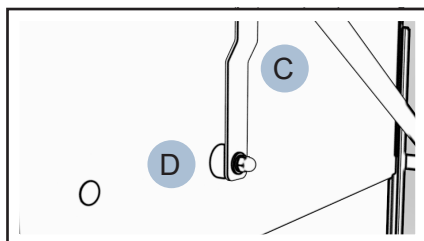

Fig. 9 - Door Linkage Arm (C) Removal & White Roller (D)
4. Disconnect the door linkage arm (C) from the wall-side door and discard. Re-install the white roller (D) and hardware (see Fig. 9).